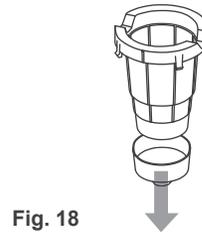

Fig. 18
3. Insert the Red Cup Holder back into the brewer. (Fig. 18)
1. There are two bottom Needles inside the Red Cup Holder. Pull down the bottom funnel from the top Holder. (Fig. 18)